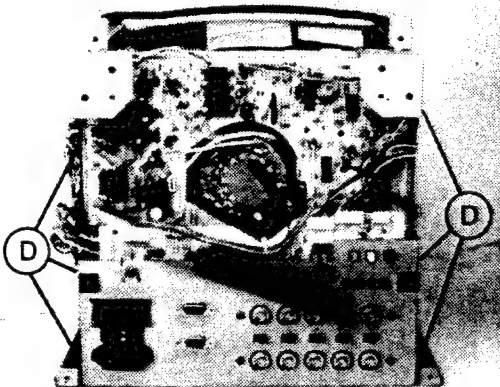

Fig. 3.
- (b) Remove the (6) screws marked "D" as shown in Fig. 3.